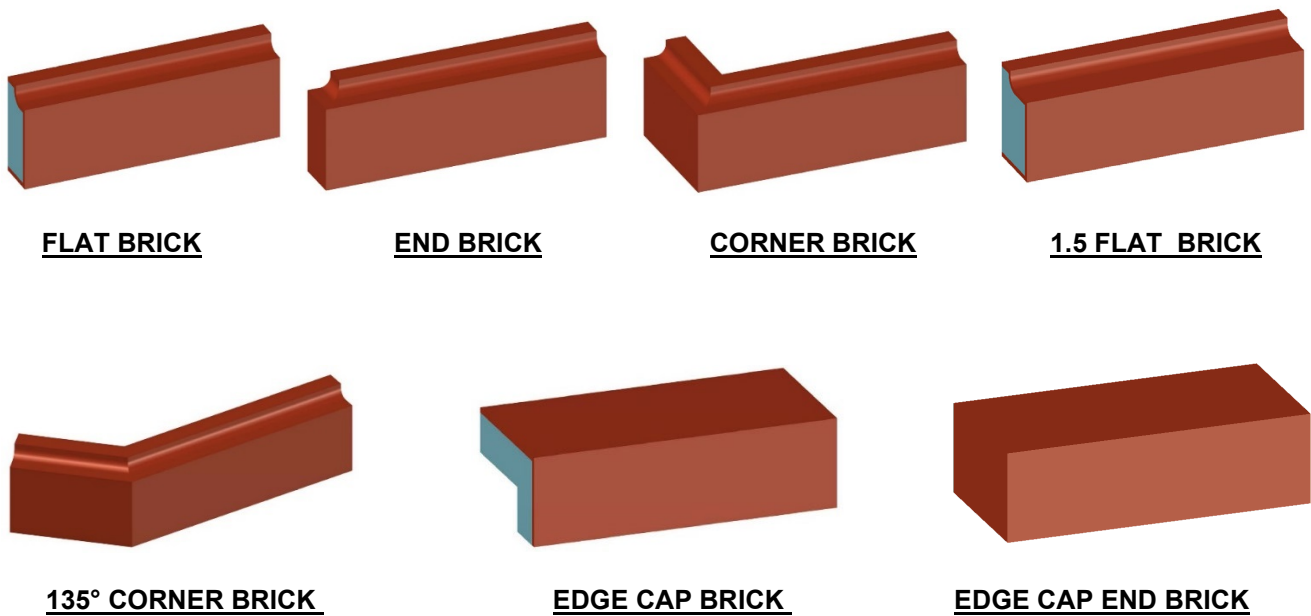

Figure 4: Flat Brick, End Brick, Corner Brick, 1.5 Flat Brick, 135° Corner Brick, Edge Cap Brick and Edge Cap End Brick Configurations
A. NewBrick units are available in the following configurations (see Figure 4):